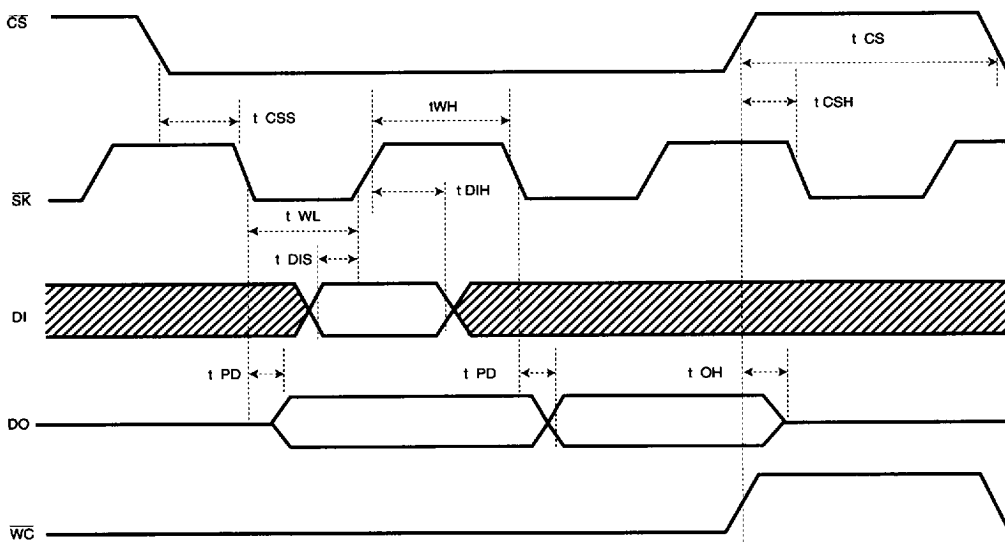

Fig.1
- After the fall of the 16th clock pulse, 16-bit data is output from the DO pin in synchronization with the falling edge of the \overline{SK} signal. (DO output changes at a time lag of t_{PD0} , t_{PD1} because of internal circuit delay following the falling edge of the \overline{SK} signal. During the t_{PD0} and t_{PD1} timing, the t_{PD} time should be assured before data is read, to avoid the previous data being lost. See the synchronized data input/output timing chart in Figure 1.)